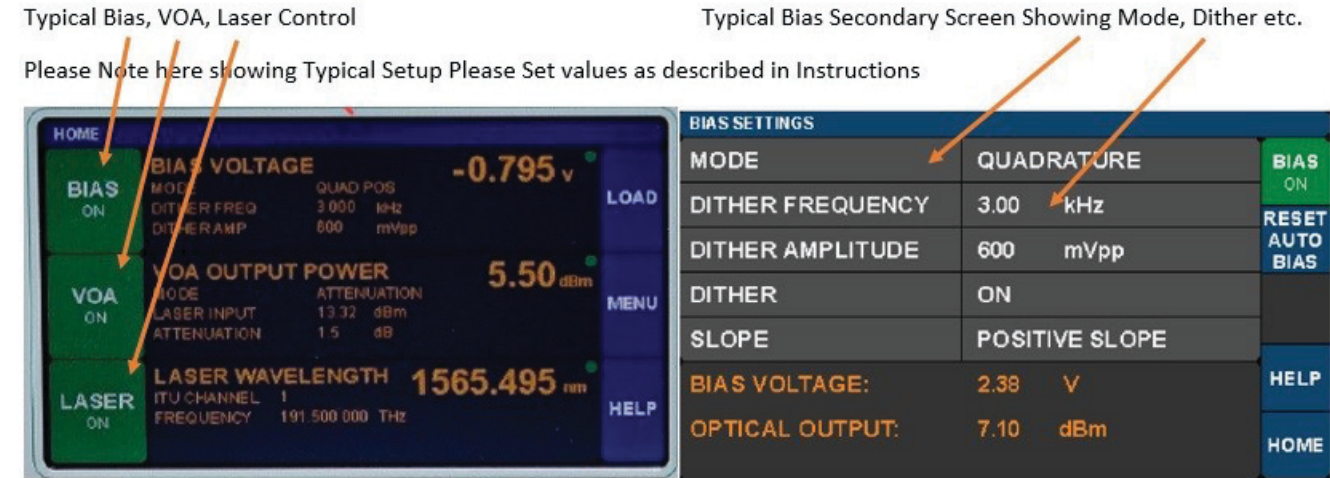

Figure 3-26. E/O Converter Setup Screens
9. Make settings on MN4775A-0040 via the Display Touch Screen as described below, refer to Figure 3-26 (left side).
- a. Touch center section of VOA OUTPUT POWER region to bring up secondary screen as shown in Figure 3-26 (left side).
- a. Touch center section of BIAS VOLTAGE region to bring up secondary screen as shown in Figure 3-26 (right side).